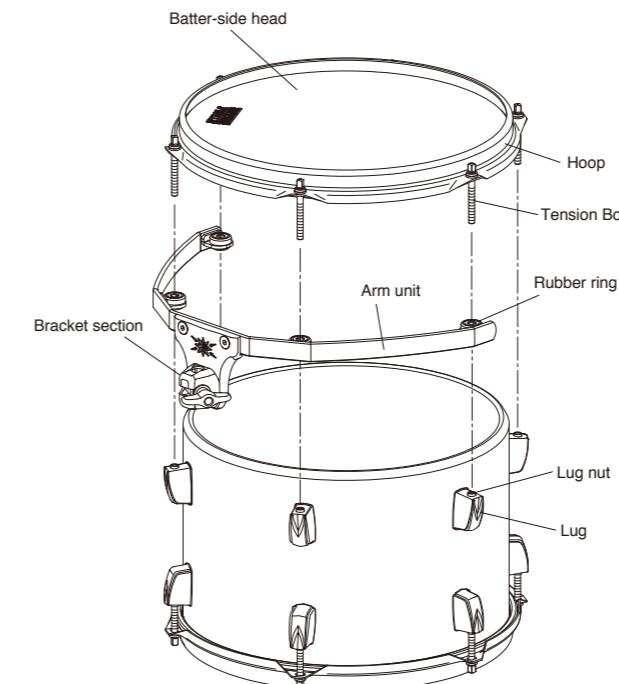

Fig. 2-1B
- * Put the new drumhead and hoop on the shell. Insert tension bolts through the holes of the hoop and rubber rings of the Star-mount, into the lugs of the drum (shown in Fig. 2-1B).